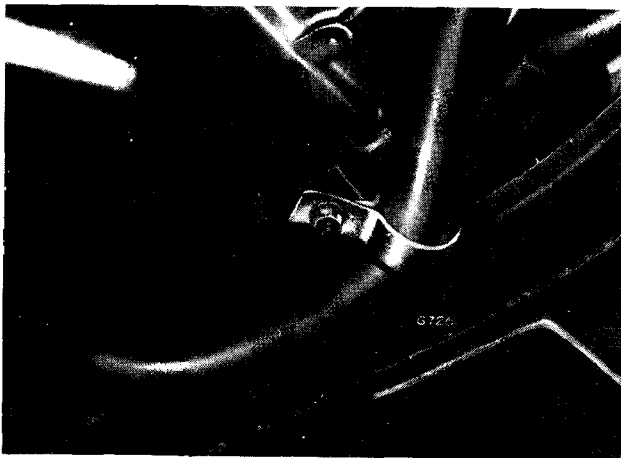

Fig. 64. Exhaust pipe front attachment
Take out the clutch-housing flange bolts (H) and release the exhaust pipe from the clutch-housing (Fig. 64).